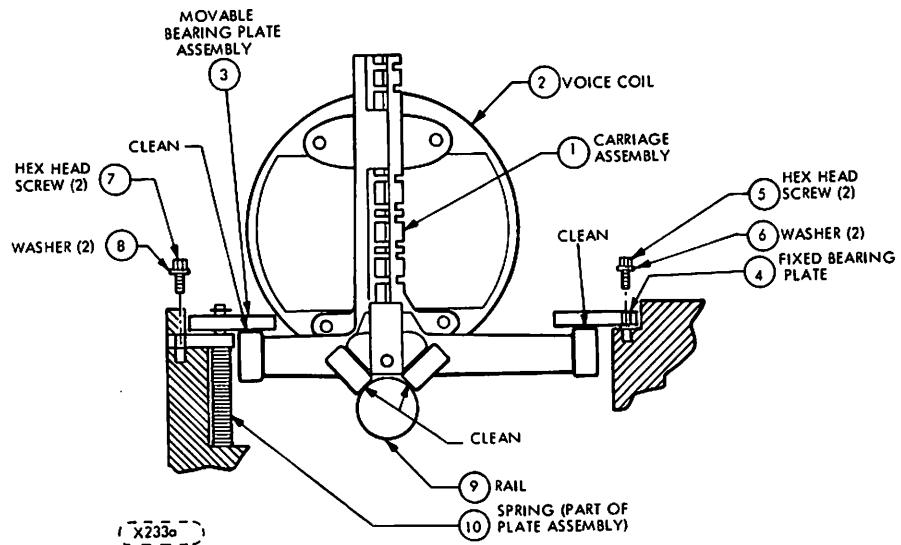

FIGURE 6-3. CARRIAGE RAILS AND BEARINGS
5. Using a clean dry cloth, clean rail, side bearing plate and bearing surfaces. Move carriage back and forth carefully to insure all surfaces are reached. See Figure 6-3.